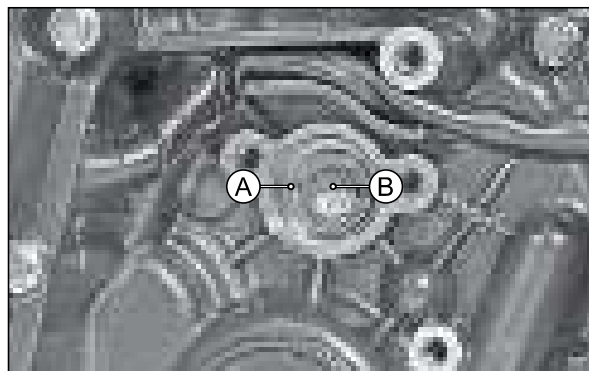

Fig. 3.112
- Remove the hexagonal bolt (M6x16 - 1 No.) (A) and take out contact complete gear shift switch (B). (Fig. 3.112)